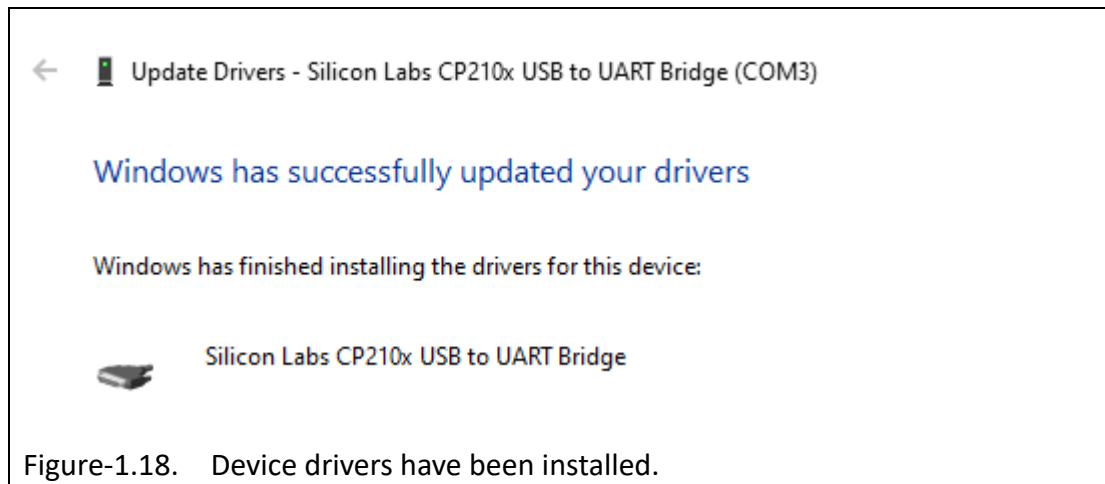

Figure-1.18. Device drivers have been installed.
18. Search the drivers in particular folder (e.g. C:\temp) (Figure 1.17) and click 'Next'. Windows will search and install the drivers automatically. After installation, a message will be shown as Figure-1.18. Close the pop-up message.